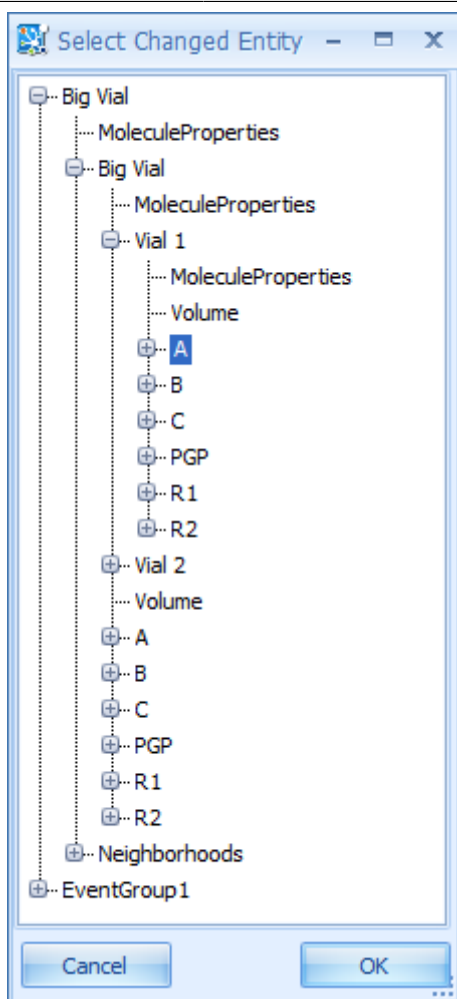

Figure 25.23. Select Changed Entity window
- Click the ... symbol to the right of "Changed Entity Path", and you will see the Select Changed Entity window (Figure 25.23) again to alter the above choice.